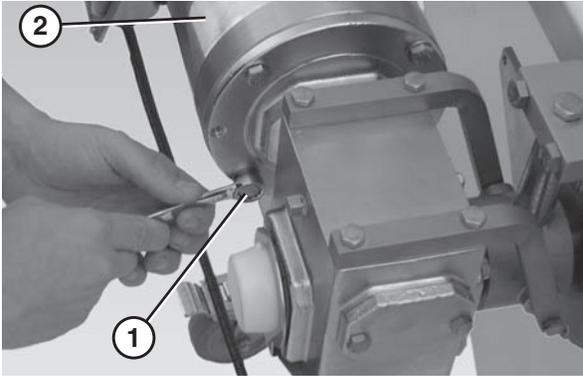

Figure 61
6. Remove the bolts (Figure 61, item 1) that connect the motor (Figure 61, item 2) to the gear reducer (Figure 61, item 3).